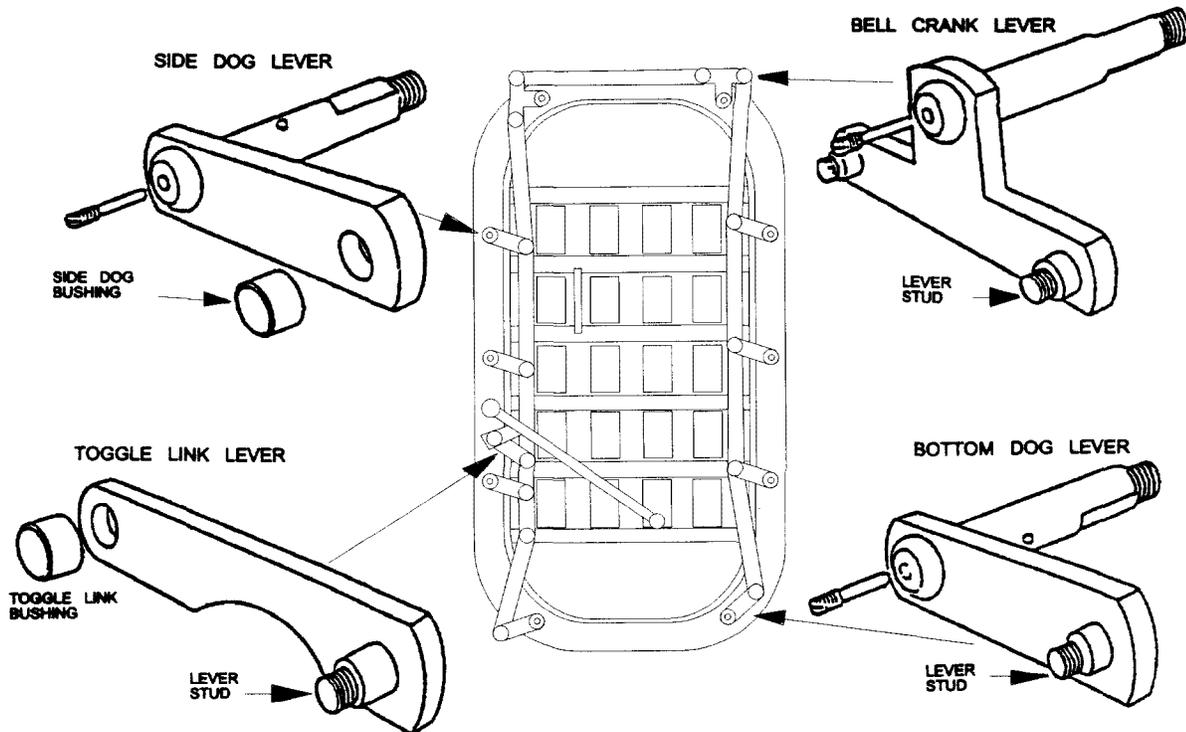

Figure 3-1. Quick Acting Door Levers
- a. For quick-acting doors, completely disassemble the entire operating handle, spindle, lever, and conrod assemblies. See figure 3-1, and refer to paragraph 3-1.6 and paragraph 3-1.7, for procedures on disassembling operating handles and lever/conrod assemblies. To make reassembly easier, mark each linkage part and its location with a metal etcher. For individually dogged doors, completely disassemble each dog. Refer to paragraph 3-1.8 for instructions.